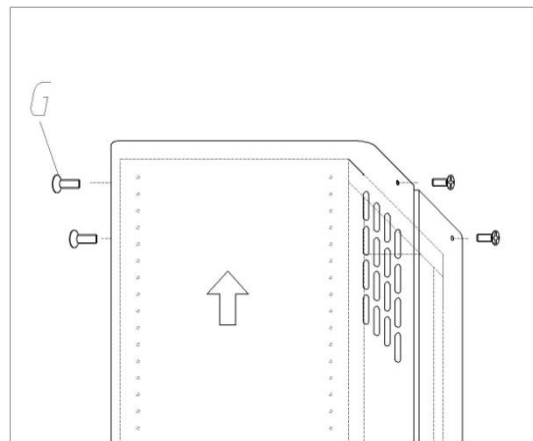

Fig. 7
- Take the upper chimney piece and fix it with 4 unit screws **G**. (Fig.7)